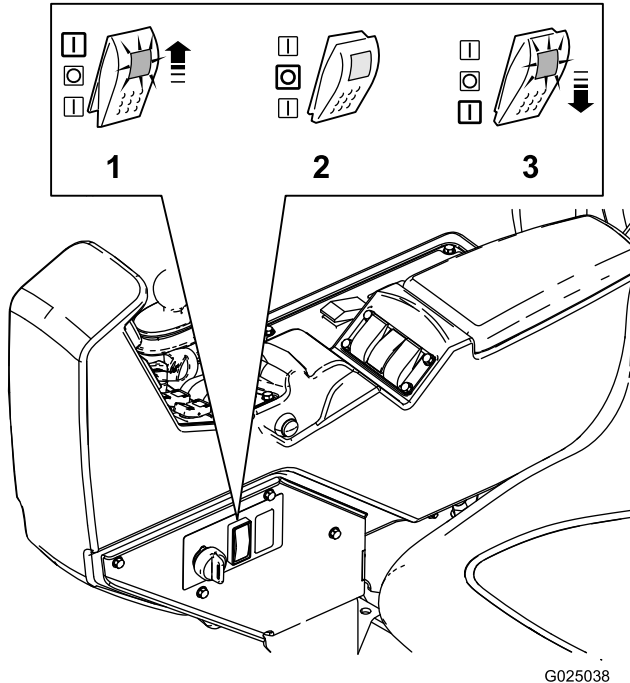

**Figure 36**
- This is the boom configuration (Figure 36). Use this configuration to spray rinse water out of the booms.